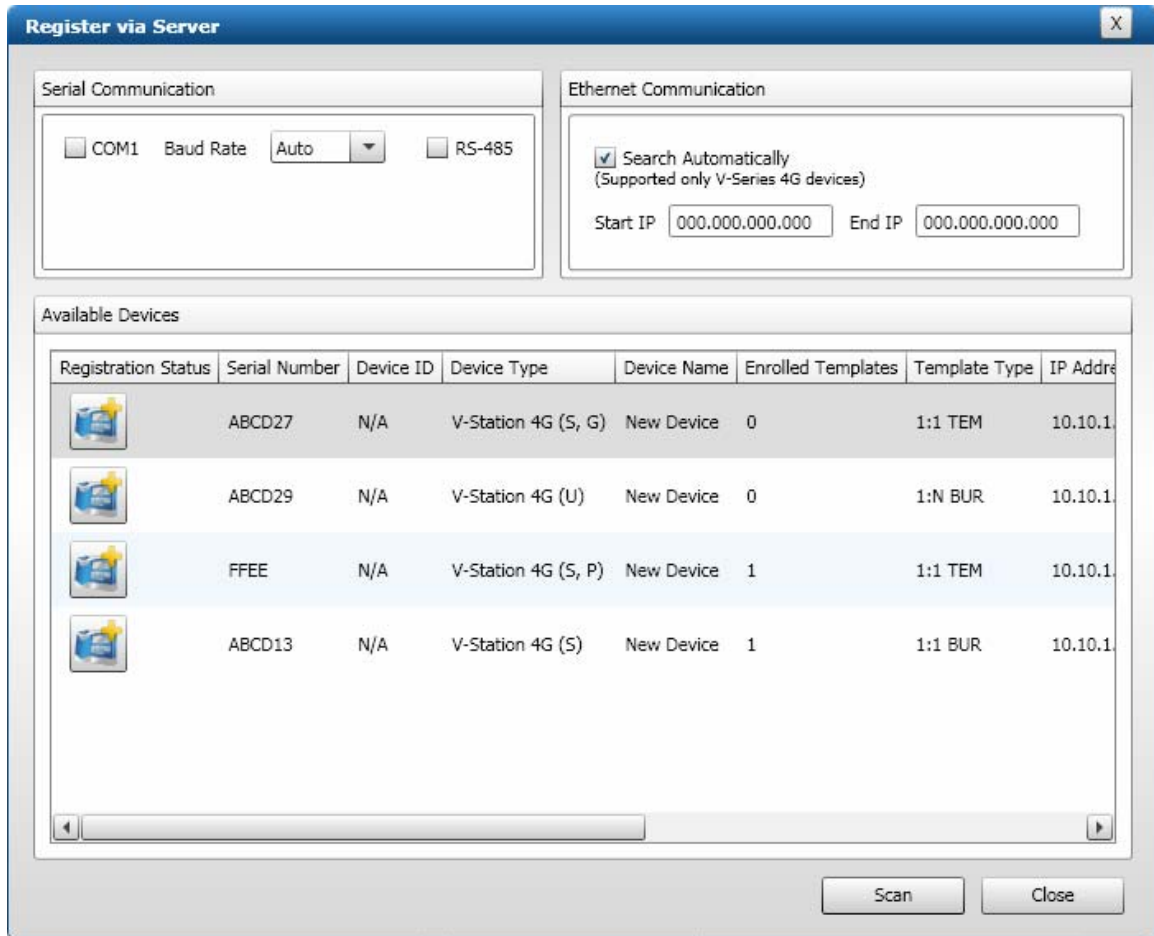

Figure 6-2: Register via Server Dialog Box
3. Click the **Register via Server** button. A Register via Server dialog box is displayed (see Figure 6-2 on the next page).